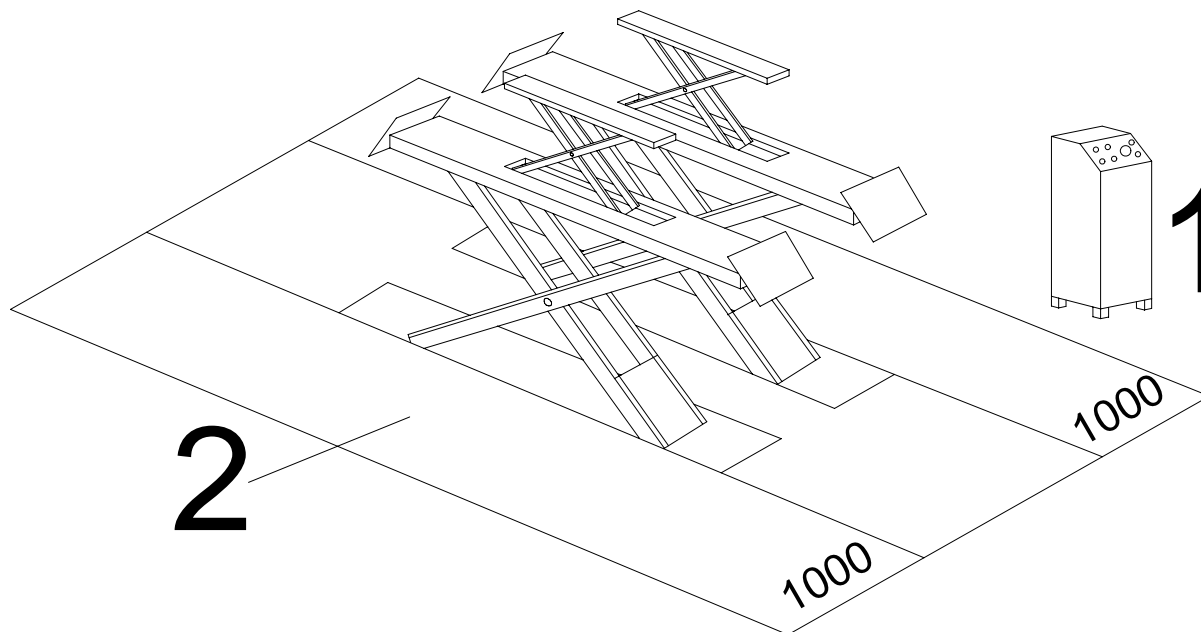

Fig.5
The safety zone (Fig. 5) is to some extent determined by the dimensions of the vehicle to be lifted.
During lifting- and lowering movements, the operator must be within the zone of operation (1), as shown in Fig. 5. The presence of any person in the safety zone (2) is strictly forbidden. The presence of persons under the vehicle is only permitted if the vehicle is parked in the lifted position.